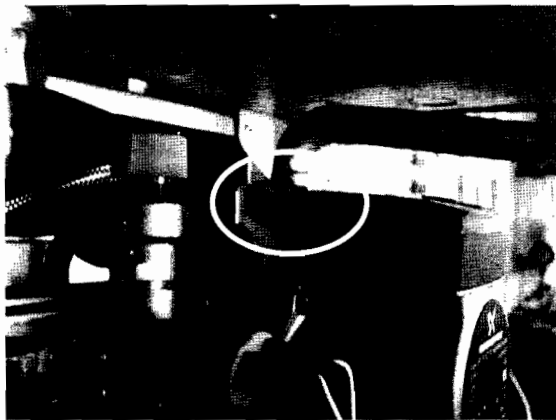

Figure 35
- ☐ Disconnect the pumps outlet fitting. (Figure 35)